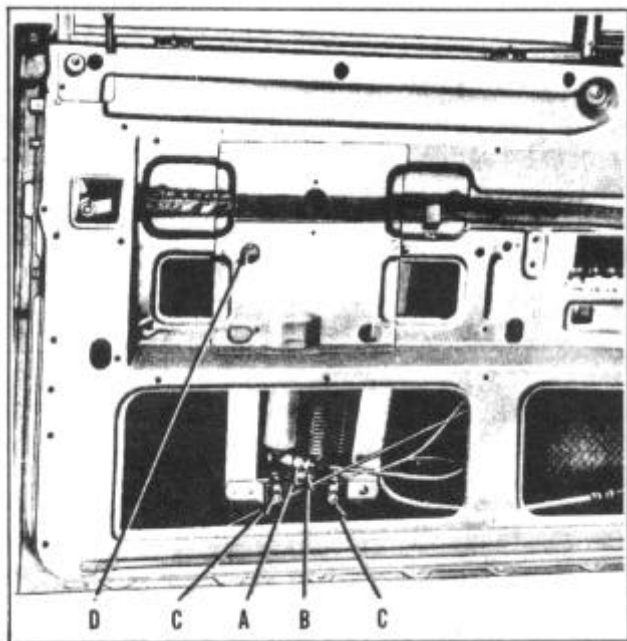

FIGURE 154
3. Disconnect hydraulic tube (A), Figure 154, and solenoid electrical connection (B).
4. Loosen two 1/2" hex nuts (C) and remove upper retaining screw (D).